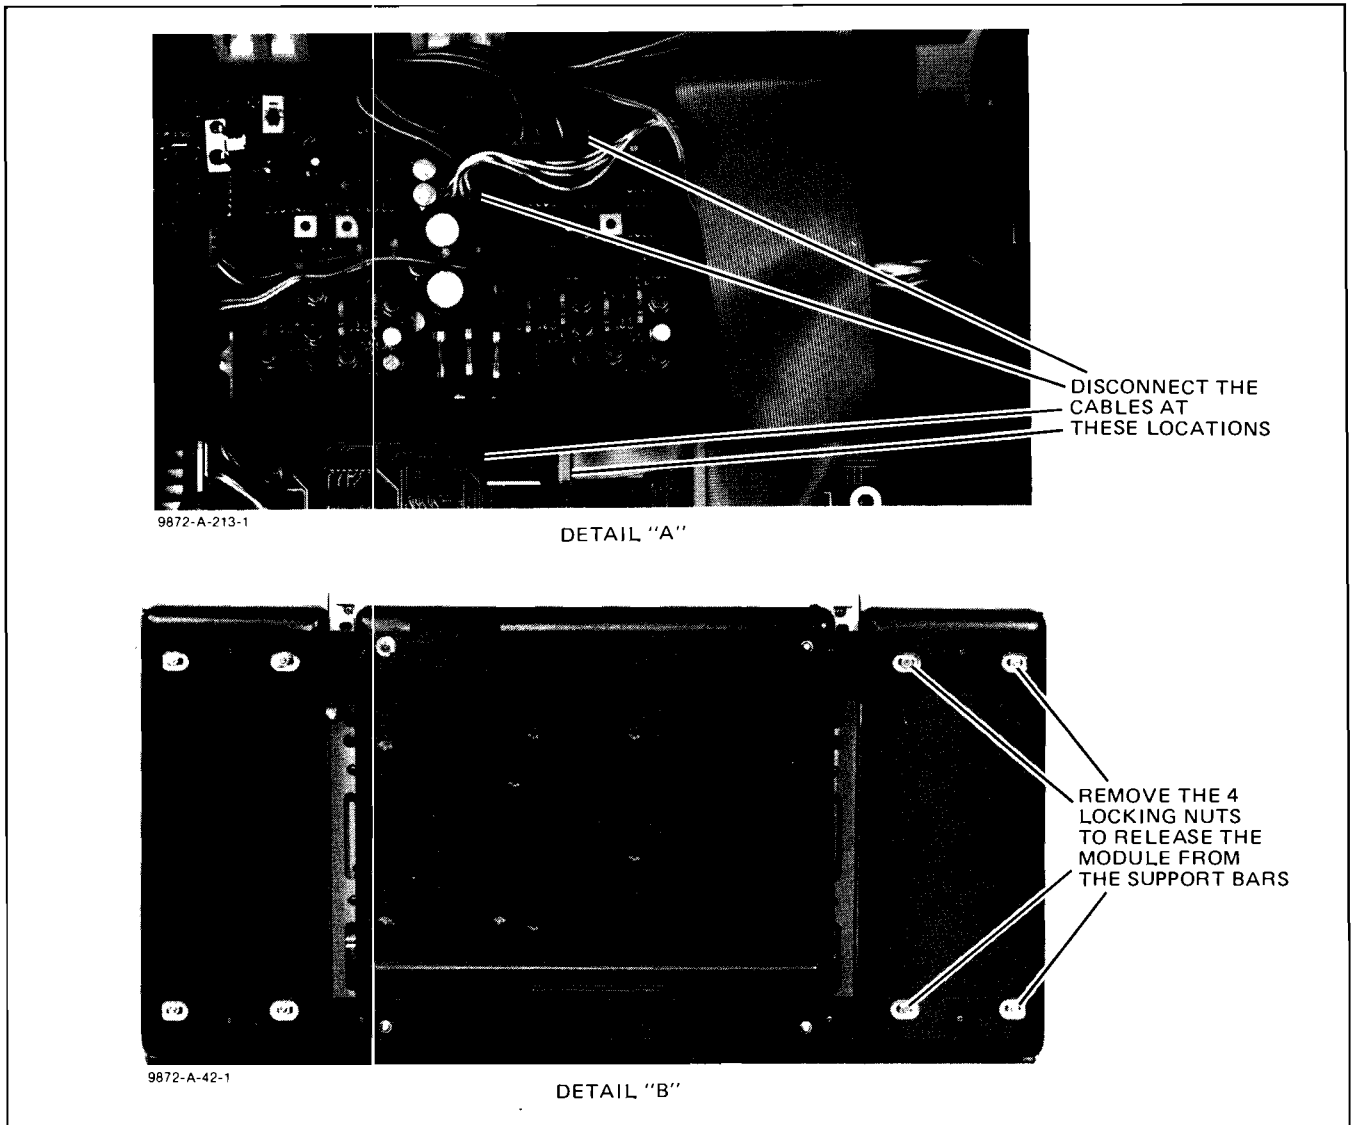

Figure A6-4. Removing the Paper Advance Modules
- a. Set the plotter LINE switch OFF (O), and remove the line cord.
- d. Disconnect the cables to the paper advance module. See Figure A6-4.